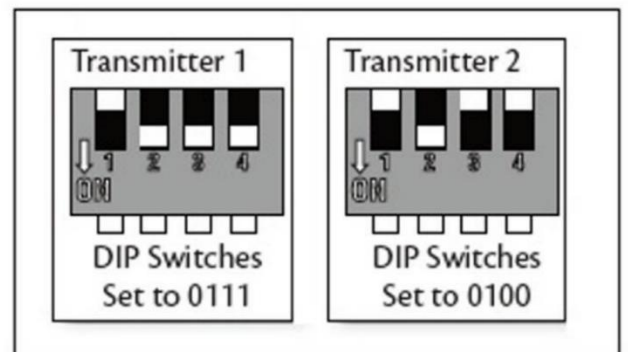

Fig. 19
Change the position of the DIP switches in the transmitter 1, (Fig. 18) so that it will be different to transmitter 2. (Fig. 19)
- Change the position of the DIP switches in the transmitter 2, (Fig. 18) so that it will be different to transmitter 1. (Fig. 19)